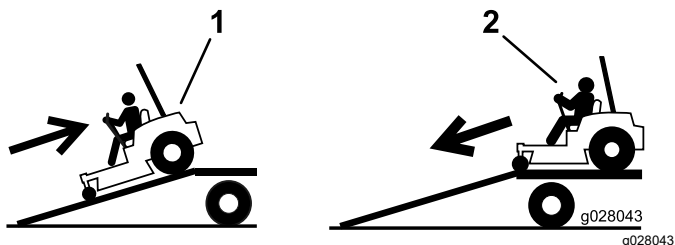

Figure 39
4. Back the machine up the ramp (Figure 39).
5. Drive the machine forward down the ramp (Figure 39).